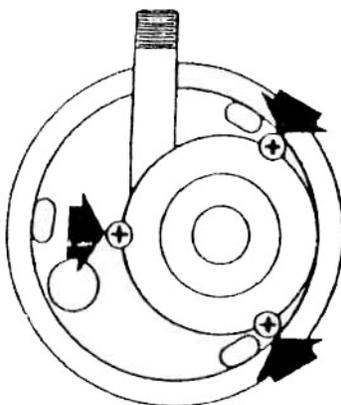

Figure 2-16. Pump Front Screws
- A. Remove screen and three [3] front screws as indicated by arrows on sketch. See Figure 2-16. (DO NOT REMOVE OTHER SCREWS, WHICH MAY BE EXPOSED.) You can then remove the pump head.